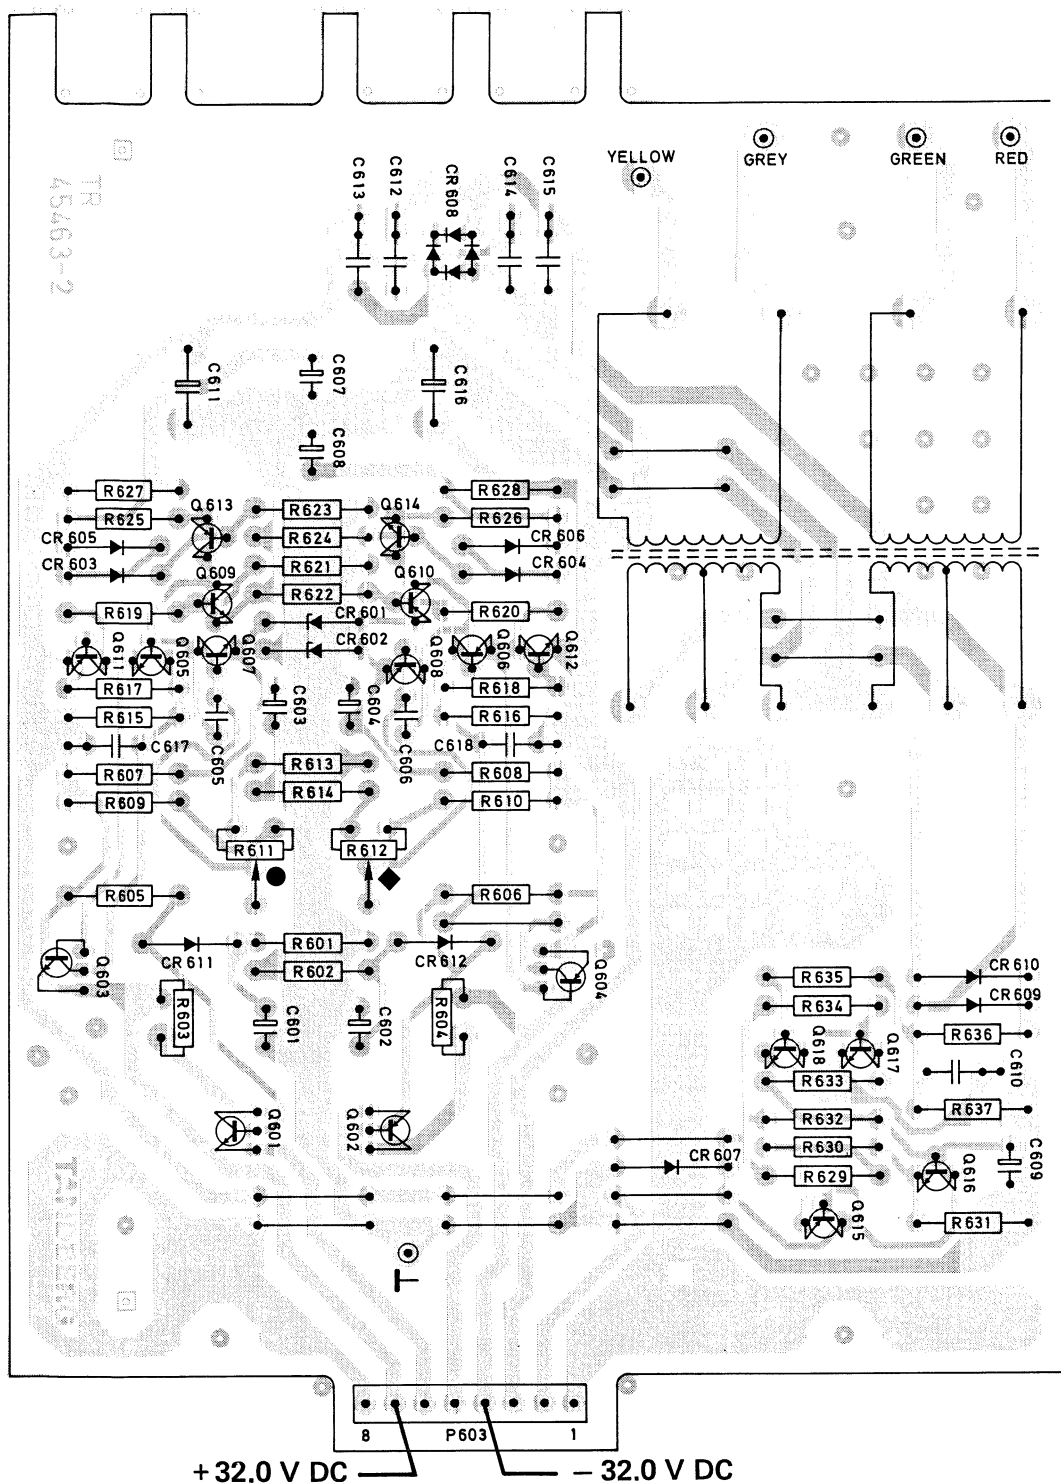

Figure 10 Power supply board
- Adjust R611 for + 32.0 V at pin 7, J503 (Figure 10).
- ◆ Adjust R612 for - 32.0 V at pin 4, J503 (Figure 10).